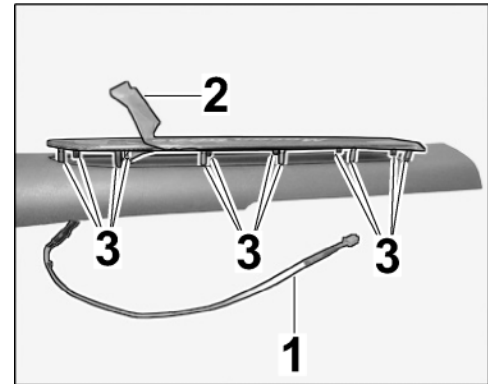

Figure 21
- 3.3.1 Pull the protective film off the door-sill guard. ⇒ *Figure 21*
Position illuminated door-sill guard over A-pillar trim panel (lower). Carefully guide tabs on the illuminated door-sill guard into the installation position on the A-pillar trim panel (lower) (⇒ *Figure 21*).